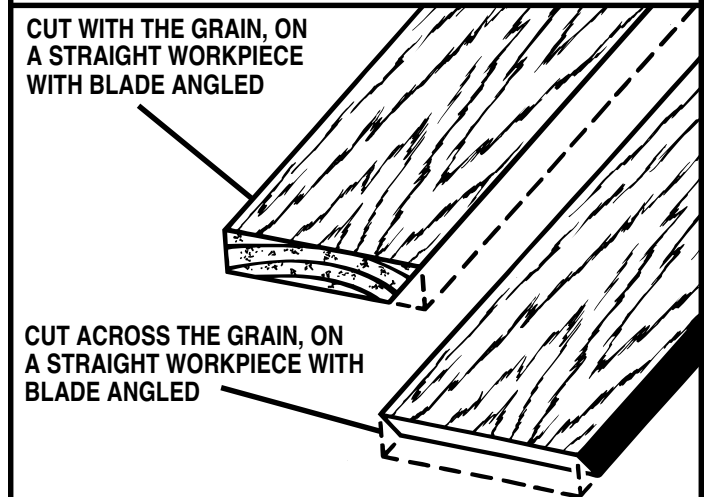

Figure 21: Bevel Rip Cut And Bevel Cross Cut
**NOTE:** The fence must always be on the left side of the blade when making bevel cuts. See Figures 21 and 41.